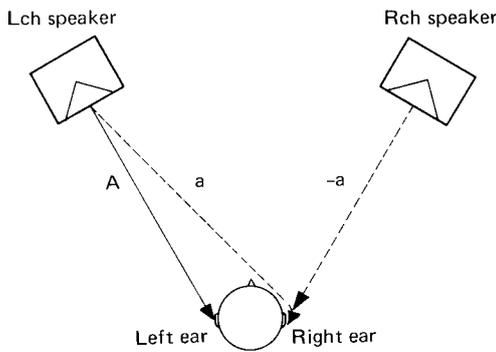

Fig. 1
In Fig. 1, (A) is the sound emitted from the left speaker and entering the left ear and (a) is the sound also emitted from the left speaker and entering the right ear with a slight delay. These two sounds differ in frequency response. If a signal corresponding to (a) and having an opposite phase, i.e. a signal of (-a) could be emitted from the right speaker, the signal (a) would be cancelled out.